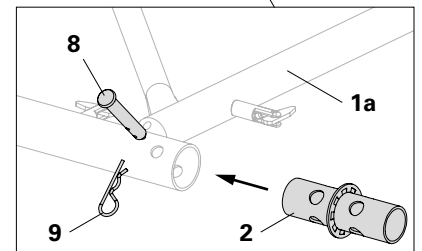

Fig. A2.01c
5. Insert 4x connectors with washers (2) into the top of the frame tubes and fasten them with bolts Ø 16 x 65/86 (8) and cotter pins 4/1 (9). (Fig. A2.01c)